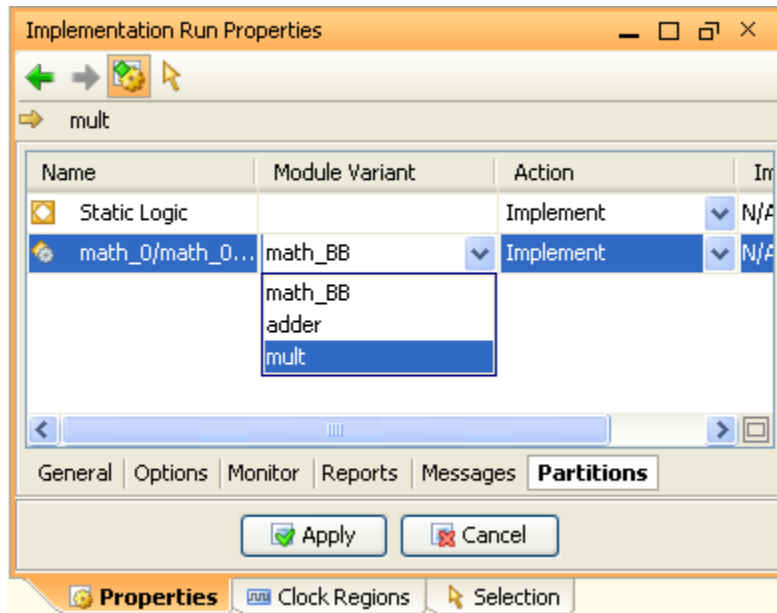

Figure 25: Implementation Run
8. In the Partitions tab, click the Module Variant column drop-down button and select **mult** as the variant, as shown in Figure 25.